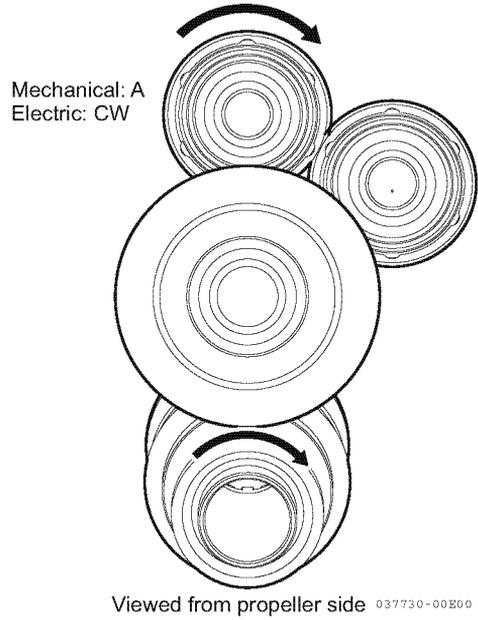

Figure 6
3. In this condition, the propeller rotates in the direction of Figure 6 at the engine start.
3. In this condition, the propeller rotates in the direction of **Figure 6** at the engine start.